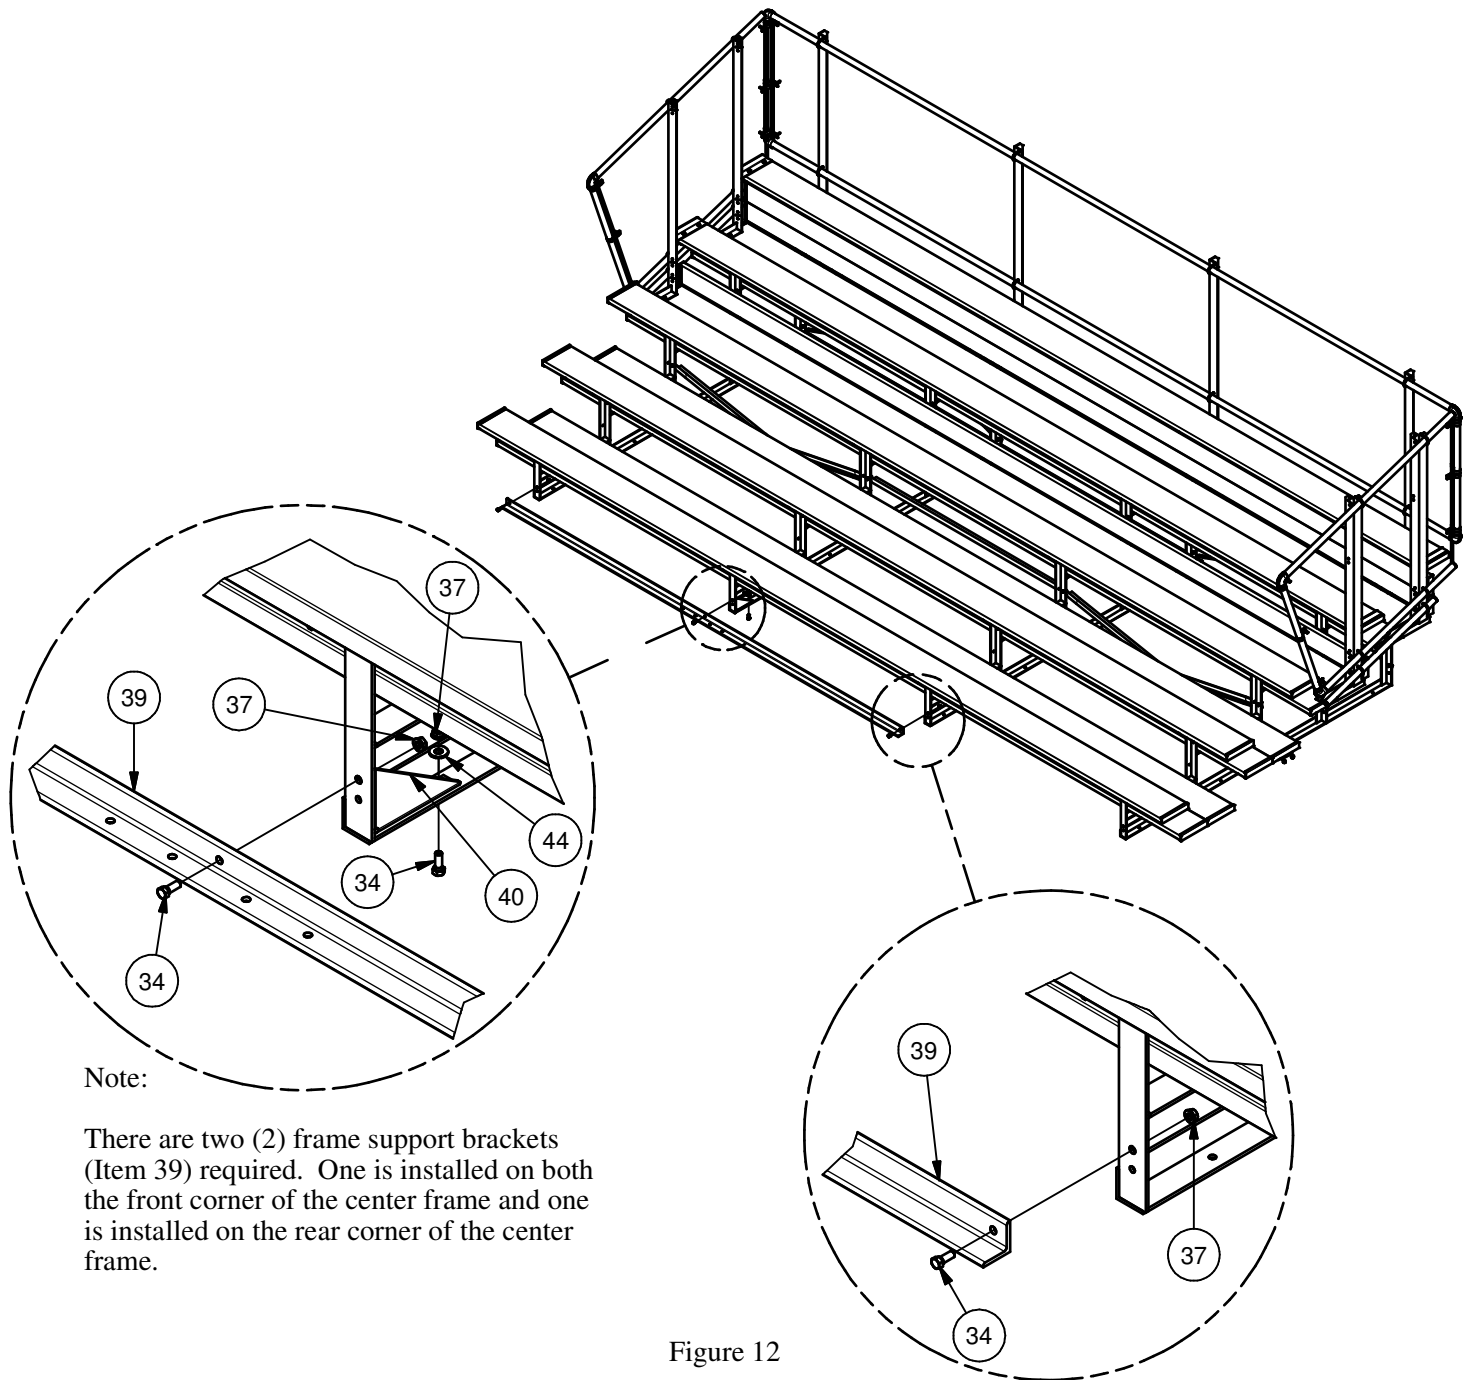

Figure 12
21. Install the transport axle support angles on the front and rear of the frames. On the front frame, use the top hole in each frame for mounting the angle. There is only one hole in the rear frame for mounting the angles. Before installing the bolt in the center, first install the frame support bracket (Item 39) onto the center frame as shown in Figure 12.